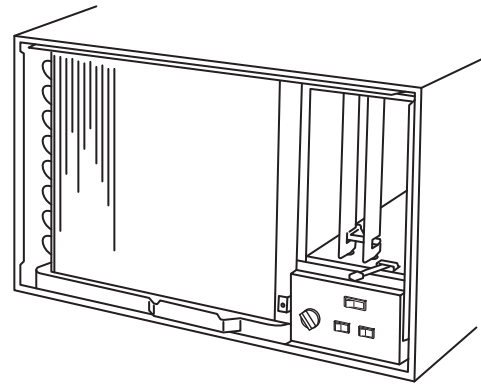

Fig. 5
- (1) Remove the front grille. (Fig. 5)